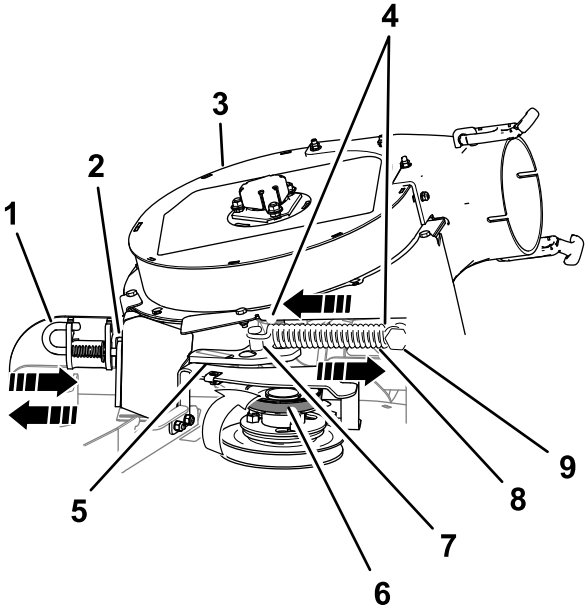

Figure 9
1. Pull the spring loaded idler pulley away from the fixed spring post, and remove the belt from the idler pulley (Figure 9).
2. Move the idler pivot bracket toward the fixed spring post and remove the hook of the spring from the idler spring post (Figure 9).
5. Move the blower latch pin to the open position and swing the blower outward (Figure 9).
3. Open the blower latch pin, close the blower to the deck, and secure the latch pin to the chute bracket (Figure 9).
6. Move the idler/tension pulley toward the fixed spring post, and install the spring by aligning the spring hook on to the idler spring post (Figure 9).